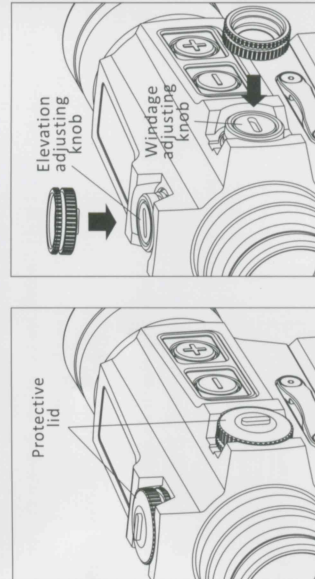

Fig 6
- On top of sight is the elevation adjusting turret, windage adjusting turret is on the right side (see Fig6). The sight has been factory adjusted for approximate zero.
- The built in screw driver tool on the protective cap can be used for zeroing adjustment (see Fig6). See label inside cap.